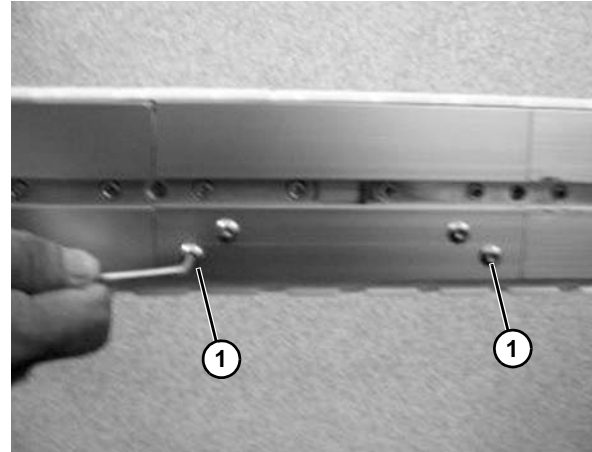

Figure 55
1. Loosen the screws (**Figure 55, item 1**) on the beam section flanges.